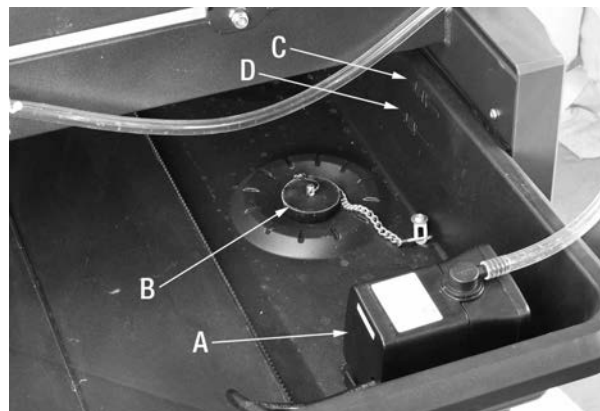

FIGURE 23
- 1) Before attempting to fill water tray with water, it is important that the water pump (A) Fig.23 be secured to the water tray and that the drain plug (B) is positioned in the drain hole.
- 2) Fill the water tray with water up to the MAX fill line (C) Fig.23 before operating this Tile Saw.
Warning: Water level must be kept between MAX and MIN fill lines. The water level must never go below the MIN fill line (D) Fig.23. This must be checked regularly to prevent the water pump from functioning without water to pump, could cause water pump damage.